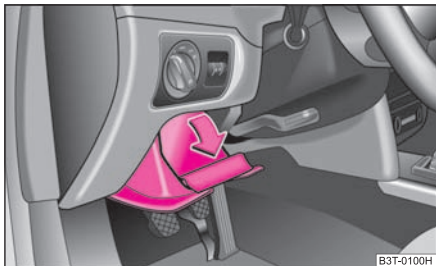

Fig. 93 Dash panel: Storage compartment on the driver's side
- The storage compartment is opened by lifting the handle and folding open in the direction of arrow ⇒ fig. 93.